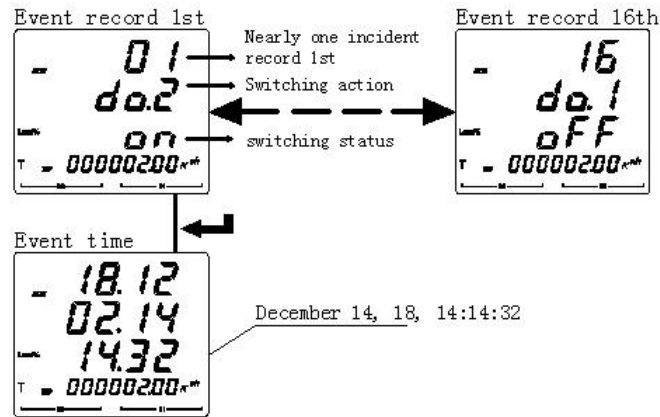

Figure 25
5.2.7 View the PZ72L/80L/96L event record parameters as shown in Figure 25.